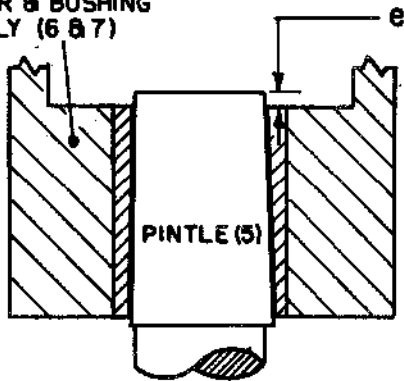
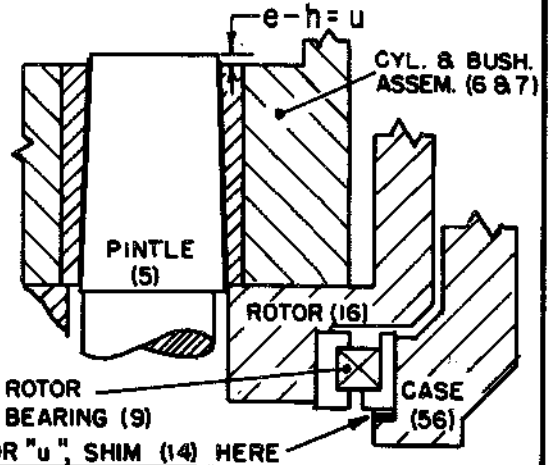
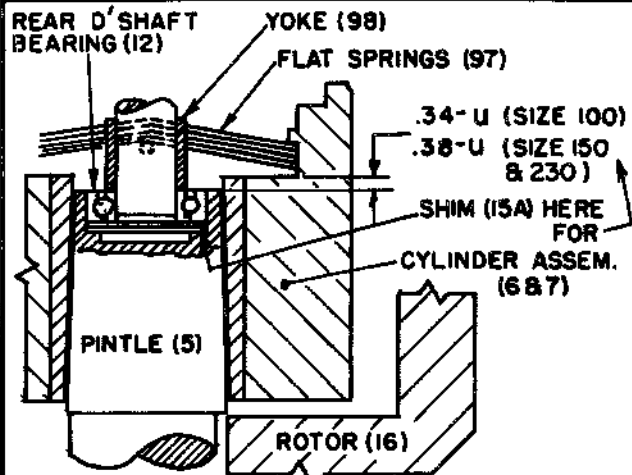

FIGURE 7. TIGHT POSITION.
FIGURE 8. OFF TIGHT POSITION.
FIGURE 9. SPRING DEFLECTION SHIMMING.
**B. GPRV ("CG" only).** Reassemble in reverse order of disassembly. Anneal gasket (54) and be sure it is in place before tightening cap.
**C. GEAR PUMP ("CG" only).** Replace parts in reverse order of disassembly. Check driveshaft key (26) fit in driveshaft and driving gear (22). Gear must be sliding fit over shaft and key. Lock gear pump cover screws (69) with soft iron or brass wire. If only the gear pump was dismantled, refer to paragraph on "Driveshaft (IX-D-4) for insertion and shimming of front shaft bearing and correct shimming for cylinder end-play.
1. PINTLE. If pintle (5) was removed, set pump case with open end facing up in a press (see V-A-g for force needed). Apply a thin coat of white lead on the large tapering surface of pintle and insert pintle into case locating it with key (77). Slip a sleeve over small pintle end so it rests against
large diameter shoulder, not pintles small end. Press on sleeve until pintle end is flush with back of case. Cylinder bushing (7) and pintle (5) have 0.032" taper on diameter per inch of length. Suspend cylinder-bushing assembly in a crane with large end of bore downward. Clean pintle and bushing surfaces thoroughly. Slowly lower cylinder over pintle, do not scrape bushing against edges or pintle ports. Stop when cylinder begins to become tight on pintle. Do not let entire weight of cylinder rest on pintle or it will become too tight and damage the bushing. At this point, the pintle should project past cylinder bushing face the amount shown in V-A-e (see figure 7). Record actual dimension and identify it as "e". Remove cylinder from pintle.
2. ROTOR. If spacers (17 & 17A) and thrust rings (18) were removed, press new ones evenly into rotor (16). Install a minimum of eight 0.010" thick shims (14) in case's rotor bearing counter bore. If measurement "e" from step 1 was less than shown in V-A-e, add one additional shim for each .010" less. Press rotor bearing (9) outer race, with thrust flange down, into case. Install inner race assembly of rotor bearing (9) on rotor and inner race of bearing (10) on rotor cover (65). Be sure bearing races are tight against hub shoulders. Lubricate bearings, place rotor assembly in case and make sure bearing (9) turns freely.
3. CYLINDER. Lubricate mating surfaces of pintle and cylinder bushing, and lower cylinder without pistons (8) on pintle; do not scratch bushing on pintle. With cylinder resting on rotor, be sure cylinder turns freely and measure pintle projection (see figure 8). It should project by an amount equal to "e" (from step 1) less dimension given in V-A-h ("e" minus "h"). Add or remove rotor bearing shims (14) to obtain correct position of cylinder. Record actual final measurement as "u".
4. DRIVESHAFT. Lift cylinder off pintle and place a .187" thick spacer ring inside rotor. Position cylinder on pintle so it rests on this spacer. Fit coupling ring (21) and coupling flange (19), without rollers, in cylinder end. Remove driveshaft (1 or 1A) from housing (57 or 72) (see VII-D on "Shaft Removal"). Place housing assembly in position with gasket (29) (use pieces if available) and tighten housing screws (57A or 72A). If removed, fit front driveshaft bearings (11) on shaft with both outer race thrust sides facing seal (27) end, install lock-washer (4), tighten nut (3) to hold bearing tight against shaft shoulder and bend one prong of washer to lock nut. Remove any shims (15) from counter-bore in housing. Slide shaft with coupling spacer (2) and key (26) (if used) in place, through housing firmly. Be sure outer race of bearing (11) is all the way down and measure from top of outer race to face of housing. Add shims under bearing until this measurement increases .005" to .010". Add .010" shims (15) between outer front driveshaft bearing (11) and gland (71) until gap between gland and housing (without gasket in place) is .005". Install seal (27), match gasket (28) holes to gland and secure gland with gasket to housing. Remove housing and driveshaft assembly from case; coupling flange and ring from cylinder; cylinder from pintle and .187" spacer ring from rotor.
5. CYLINDER. Insert pistons (8) all the way in cylinder (6) and carefully lower assembly part way on pintle. Hold it high enough to set spring yoke (98) on rear shaft bearing (12), balls (96) in yoke and flat springs (97) on balls in each side of yoke. Size 100 units use six springs, size 150 use seven. Lower cylinder until it hangs on springs (see figure 9). Measure from bushing face to end of pintle to determine spring deflection. Shim (15A) under bearing (12) to obtain measurement of 0.34" minus "u" for size 100; or 0.38" minus "u" for size 150. The "u" dimension was recorded in step 3. Be sure outer race thrust face of bearing (12) faces down. Install coupling ring (21) and rollers (20). Check for free fit of coupling piston ring (19A) in cylinder bore, install ring in coupling flange (19) and assembly in cylinder.